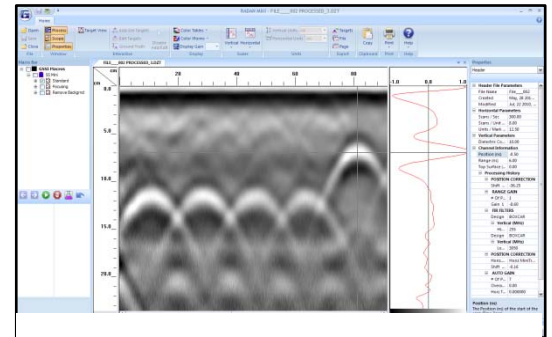

Figure 4
- **Scope:** Toggle on and off to display the “O-Scope” RADAR signal (Figure 4). You may hold the left mouse button down on the data and move the mouse to view the RADAR signal at that position.